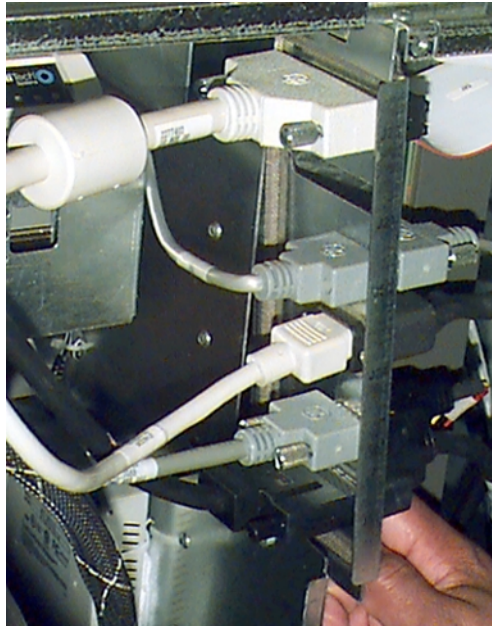

Figure 5 Side Bulkhead Removal
- 2.) Remove the side bulkhead assembly (see Figure 5) by loosening the knurl nut. Position the bulkhead so that it is out of the way of the card cage assembly (use care handling the ribbon cable).